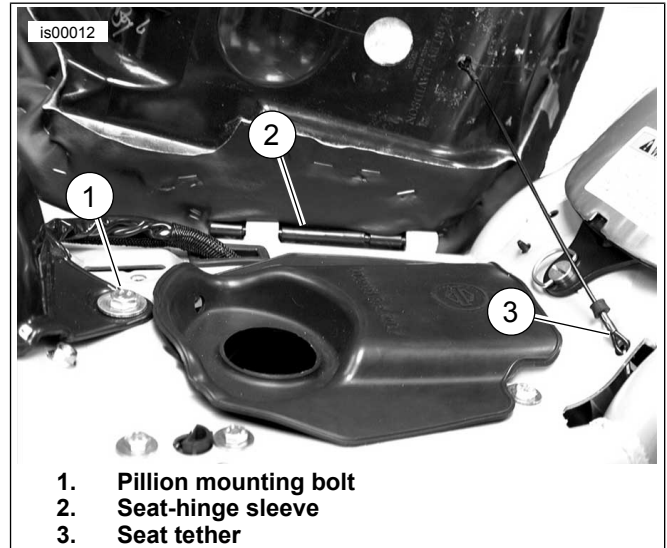

Figure 1. Seat and Pillion Fastener Points
10. See Figure 1. Clip the plastic seat-hinge sleeve (2) over the seat hinge.
11. See Figure 1. Insert the seat tether (3) into the hole in the motorcycle frame.
4. See Figure 1. Clip the plastic seat-hinge sleeve (2) over the seat hinge.
5. See Figure 1. Insert the seat tether (3) into the hole in the motorcycle frame.